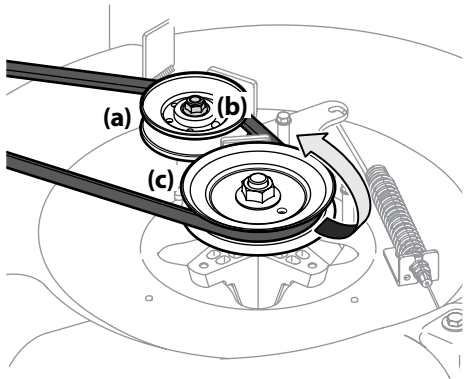

Figure 4-11
- Loosen the idler pulley (24" decks only) (a) by loosening the flange lock nut (b) that secures it, enough to allow clearance for the belt to move past it and off. Remove the belt by working it off of the deck drive pulley (c) and idler pulley (a). See Figure 4-11.